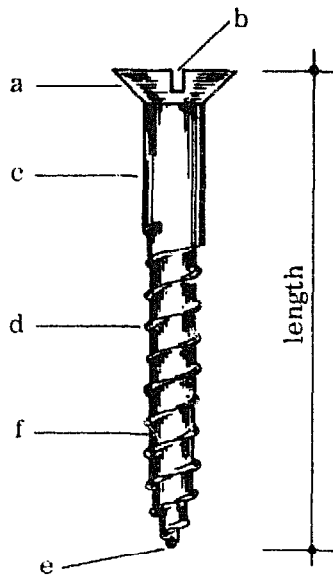

Fig. 1
The parts of a screw are: the head (a), the slot (b), the shank (c), the thread (d), the point (e) and the core (f) (Fig. 1, page 210).
- Countersunk head screws (Fig. 1, page 210)
- COUNTERSUNK HEAD SCREWS: The head of this kind of screw is flat on top and tapering underneath. The length is measured from the point to the top of the head (Fig. 1, page 210).